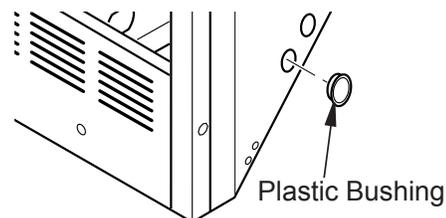

Figure 11 - Installing Plastic Bushing for Power Cord
- a. **If your firebox is installed as a free-standing unit**, determine whether the power cord will exit the left side or the right side of the firebox. Install 1 plastic bushing provided into the 1½" hole in the floor support on the exit side. Install the second plastic bushing provided into the 1½" hole in the outer casing through which the power cord will exit (see Figure 11). Route power cord through both plastic bushings and plug the power cord into a 3-prong grounded wall receptacle near the firebox.